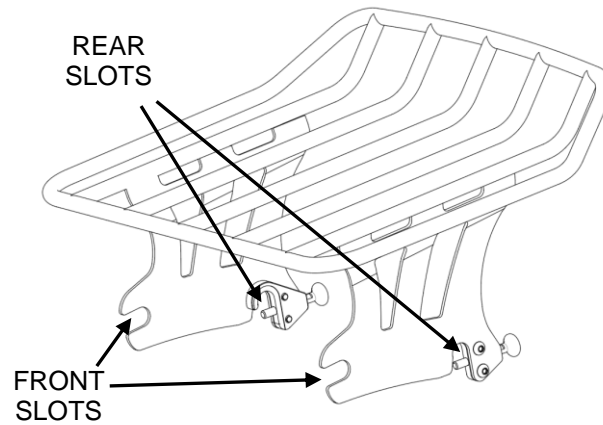
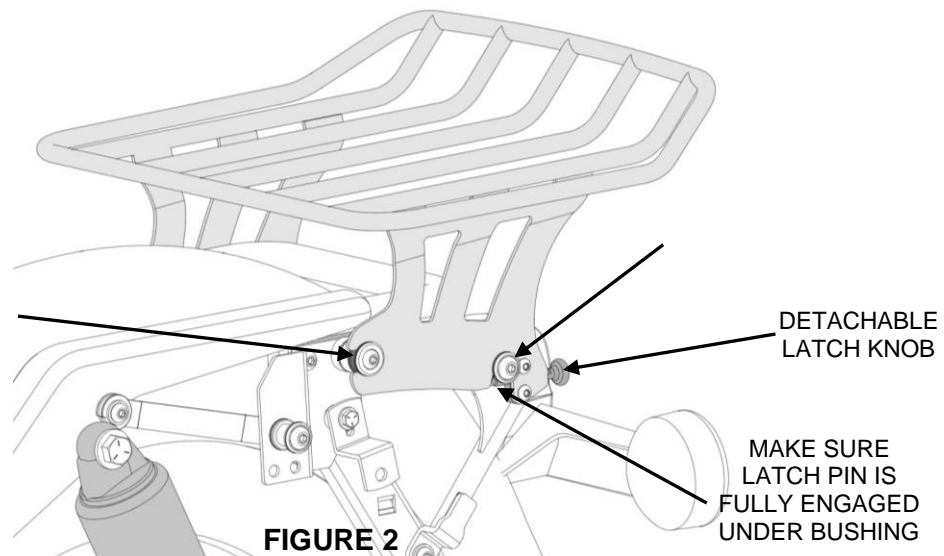

FIGURE 1
FIGURE 2
**NOTE:** See **FIGURE 1**. This Cobra detachable rack **must** be installed after the Cobra rear mounting kit (P/N 602-2103) or the Harley-Davidson rear mounting kit (P/N 53804-06). Compatible with Cobra Detachable Backrest (P/N 602-2012 or 602-2212).
1. Check the fitment of the detachable rack on the bike, attaching it by following steps #2-4 below. All of the front and rear slots (indicated in **FIGURE 1**) of the rack should fully engage with both the rear and front plastic mounting bushings (as indicated in **FIGURE 2**) of the rear docking kit on both sides of the bike. If any do not, loosen any hardware necessary in order to adjust the locations for the mounting bushings for the front docking kit until they do. **Re-torque** any loosened hardware to their specified torques, then detach the rack from the bike.
2. Slide the front slots (indicated in **FIGURE 1**) of the rack into the front mounting bushing of the rear mounting kit (indicated in **FIGURE 2**). Make sure to insert the front slots all the way onto the bushings.
3. Slowly rotate the rack downward until the rear slots (indicated in **FIGURE 1**) slip over the rear mounting bushings (as indicated in **FIGURE 2**).
4. See **FIGURE 2**. Pull backward on both detachable latch knobs and then push downward on the rack to allow the rack's slots to sit completely in both the front and rear mounting bushings. Then release the detachable latch knob to fully engage the latch pin underneath the rear mounting kit bushing.
5. Before each ride, ensure that the detachable latches are fully engaged underneath the rear mounting bushings (as indicated in **FIGURE 2**).